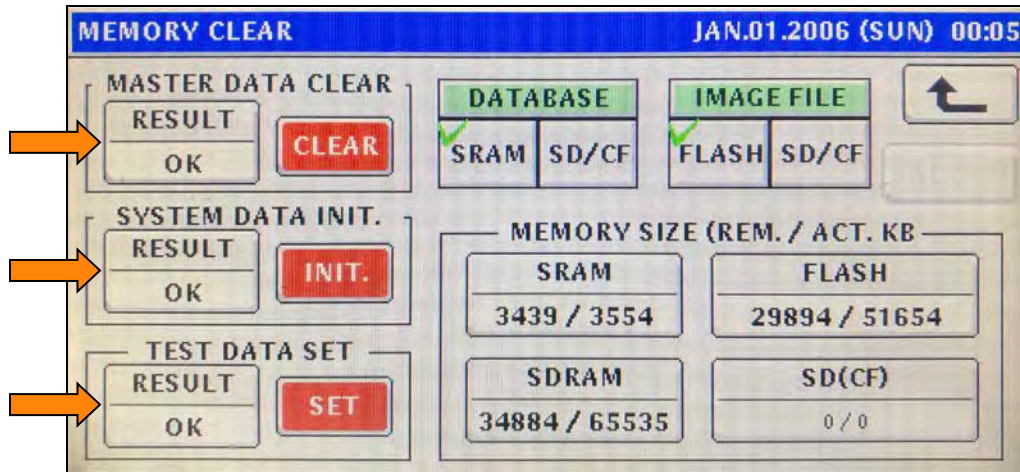

Figure 31. Memory Clear Screen
20. Perform three standard clears: Master Data Clear, System Data Initialize, and Test Data Set. See Figure 31.